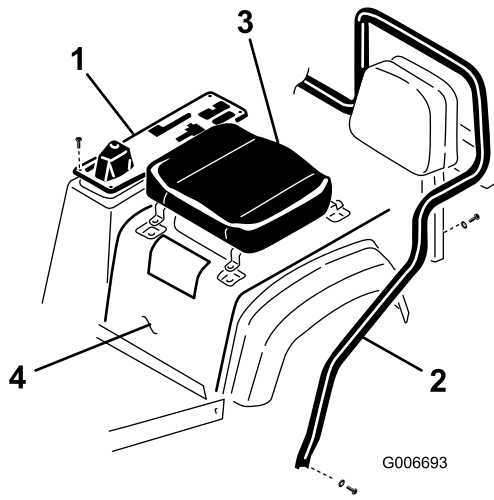

Figure 5
3. Remove (6) screws securing outside edge of center console cover plate to frame and remove cover plate (Figure 5).
- Loosen (2) capscrews and locknuts securing front legs of seat frame to sides of vehicle floor (Figure 5).
- Remove (2) capscrews and lockwashers securing seat frame brackets to vehicle frame (Figure 5). Pivot seat frame forward.
- Remove (4) capscrews and lockwashers securing each set of seat brackets to vehicle frame and remove seat assemblies (Figure 5). Lift off skirt and fender assembly.